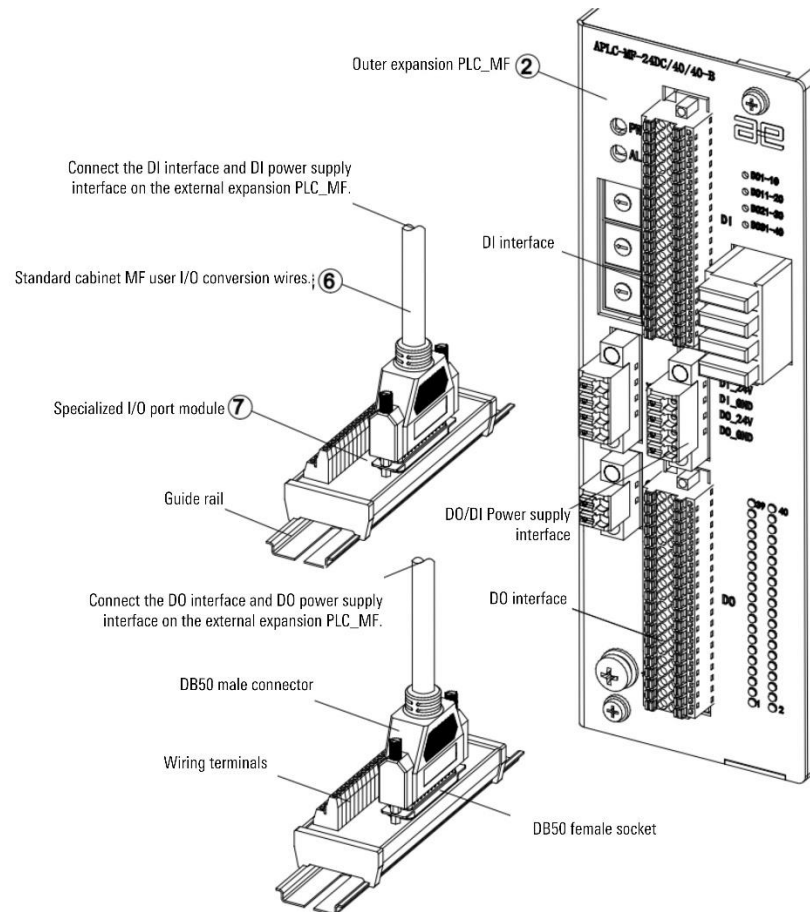

Figure 17-2 Diagram of connecting user I/O terminals
Step3. Connect one end of the two standard cabinet MF user I/O adapter cables to the DI interface and DO interface on the external expansion PLC\_MF, and the other end to the user I/O terminal module, refer to Figure 17-2. PLC\_MF baud rate setting refers to Table 16-14.